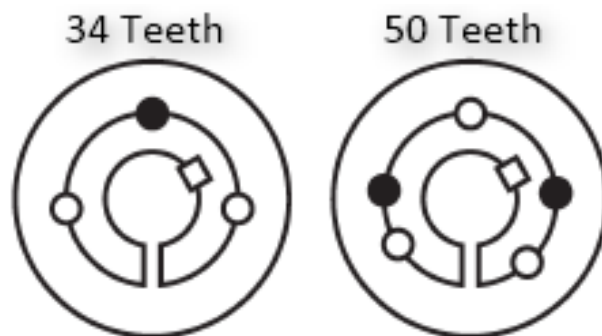

Figure 18
3. Insert the screws into the jack screw holes as indicated by a black dot as shown by Figure 18.
4. Lightly oil the screws and thread them into the half-threaded holes indicated by a white dot on Figure 18.